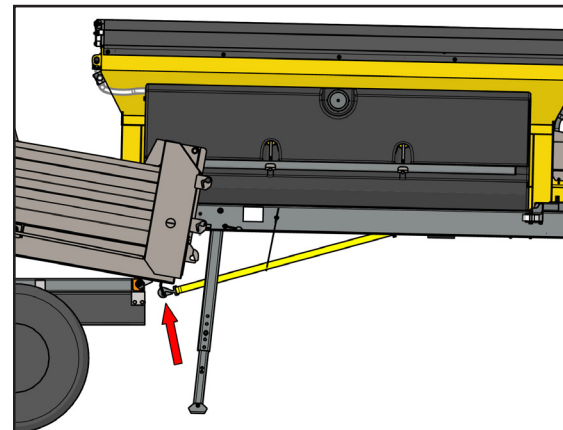

Figure 4 - Attach Safety Strap
4. Figure 4 - Attach safety strap to chassis and tighten so strap is taut. Front legs remain locked.